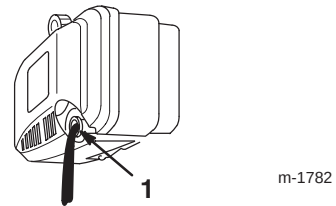

Figure 15
4. Tip the lawn mower onto its **left** side, allowing the oil to drain into the drain pan (Fig. 15).